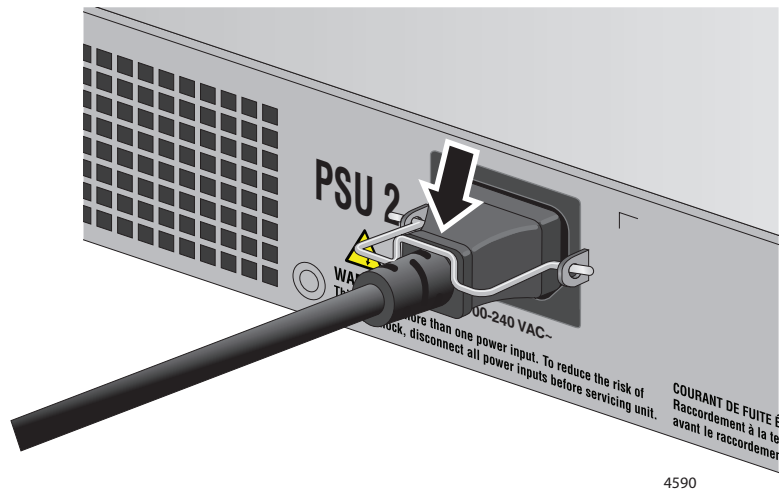

Figure 43. Lowering the Power Cord Retaining Clips
3. Lower the power cord retaining clips to secure the cords to the switch. Refer to Figure 43.